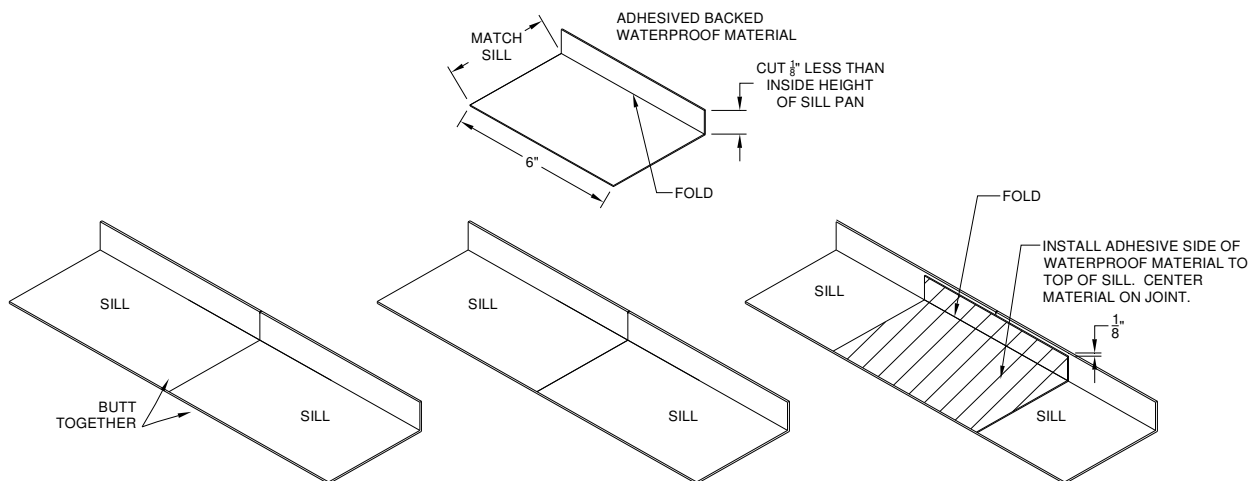

Figure 6:
- Cut a piece of adhesive backed waterproof material to fit the joint as specified in Figure 6, A=1/4". Select waterproofing material that is compatible for your application. Waterproofing material must have an adhesive backing and be capable of withstanding the temperature ranges for your region.